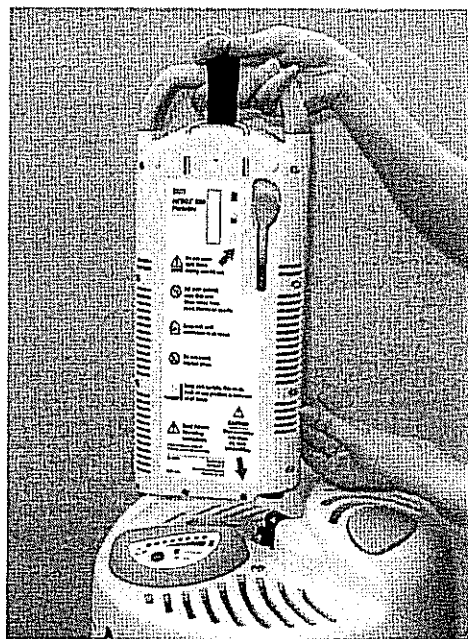

Figure 1: Positioning the H850 Portable for filling
3. Position the H850 Portable over the recessed area in the top of the Reservoir. (Figure 1).